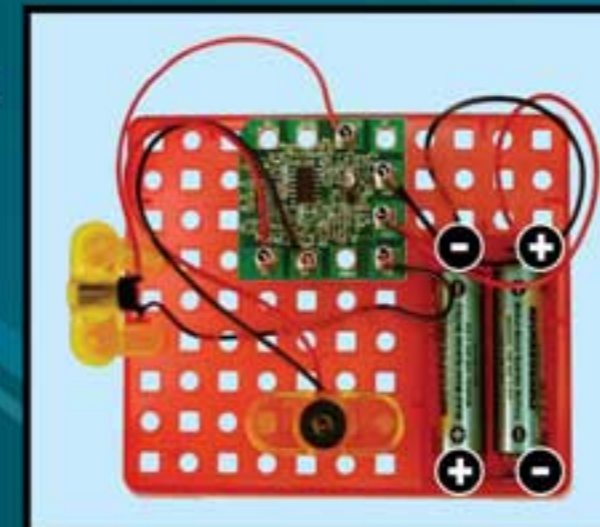

Fig. 5
- Now, the Motion Sensor is ready. Insert two AA size batteries to the compartment according to the polarity as shown in figure 5.
Insert 2 AA batteries according to the polarity as shown in Fig. 5.